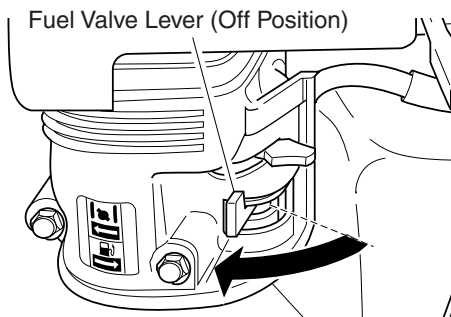

Figure 22 - Fuel Valve Lever Off (Model MGH6500AIE Shown)
4. Turn fuel valve lever off. Do this by moving valve lever fully to the left (see Figure 22).